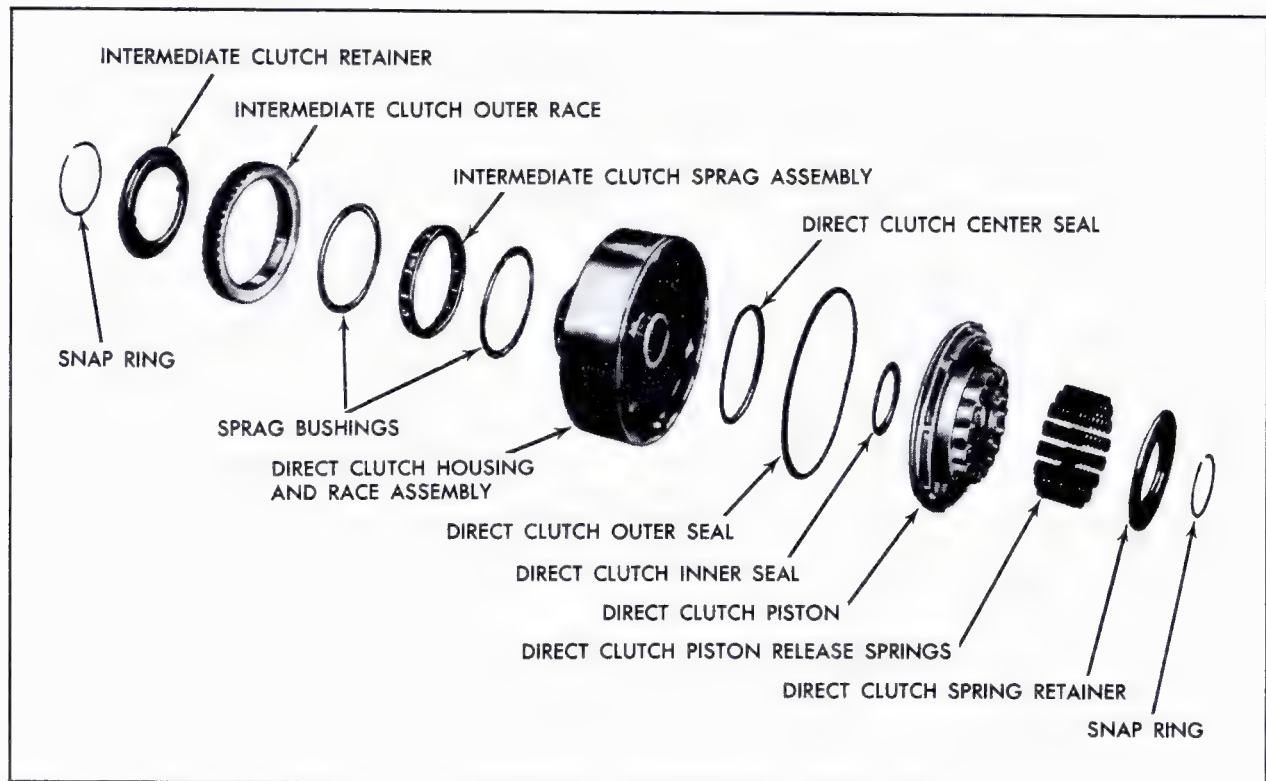

Fig. 7-195 Direct Clutch and Piston Disassembled
c. Direct Clutch and Intermediate Sprag Assembly (Fig. 7-195)